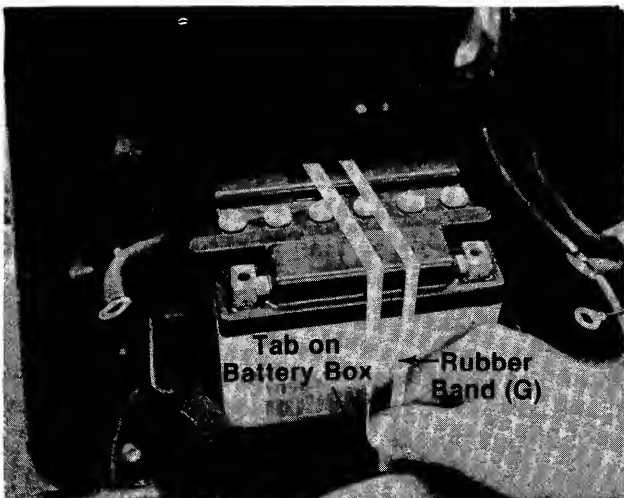

FIGURE 13.
11. Secure the battery to the battery box by stretching the rubber band (G) provided across the battery. Loop each end around the tab on the sides of the battery box. See figure 13.